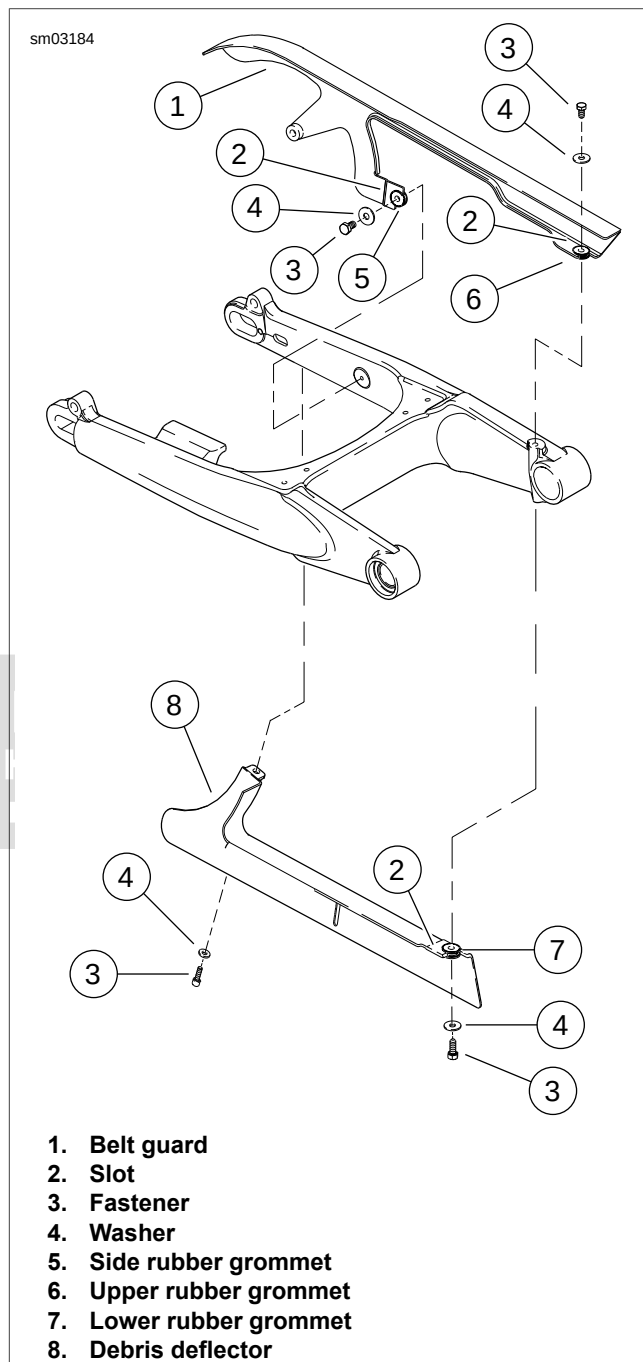

Figure 2-124. Belt Guard/Debris Deflector (typical)
1. See Figure 2-124. Unthread left side lower shock mount bolt from belt guard (1) without removing shock mount bolt from rear fork.
2. Pull belt guard (1) rearward off of side rubber grommet (5) and upper rubber grommet (6). If necessary, remove fasteners (3) holding grommets (5, 6) to rear fork.
1. See Figure 2-124. Remove fastener (3) and washer (4) from the underside of the rear fork near the rear shock mount.
2. Pull the debris deflector (8) rearward off of the lower rubber grommet (7) and remove the debris guard.
3. Inspect the rubber grommet (7) on the rear fork and remove the bolt and rubber grommet if necessary.
1. See Figure 2-124. Replace the rubber grommets (5, 6) and bolts as necessary. Tighten 6-10 Nm (53-88 in-lbs)
1. See Figure 2-124. If necessary, replace rubber grommet (7) and fastener (3). Tighten to 6-10 Nm (53-88 in-lbs).
2. Slide debris deflector slot (2) into position on the rubber grommet (7).
3. Thread rear fastener (3) and washer (4) through debris deflector (8) into rear fork. Tighten to 6-10 Nm (53-88 in-lbs).